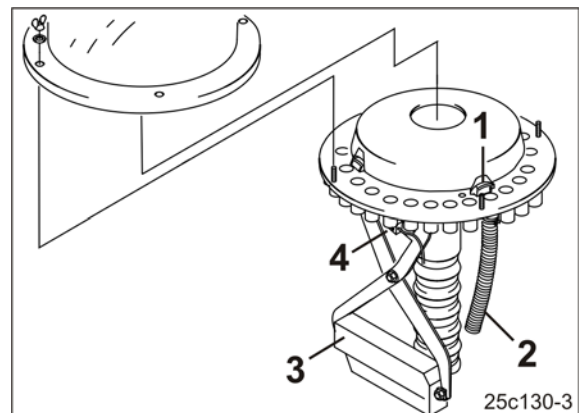

Fig. 93
- the tramline control on the distributor head uses shutters (Fig. 93/1) to block the seed feeding lines to the seed lines (Fig. 93/2) of the tramline coulters.
Seed supply to the tramline coulters is interrupted as soon as the electric motor (Fig. 93/3) closes the appropriate seed tubes (Fig. 93/2) in the distributor head.
A sensor (Fig. 93/4) checks whether the shutters (Fig. 93/1), which open the and close the seed line tubes (Fig. 93/2), are working properly.